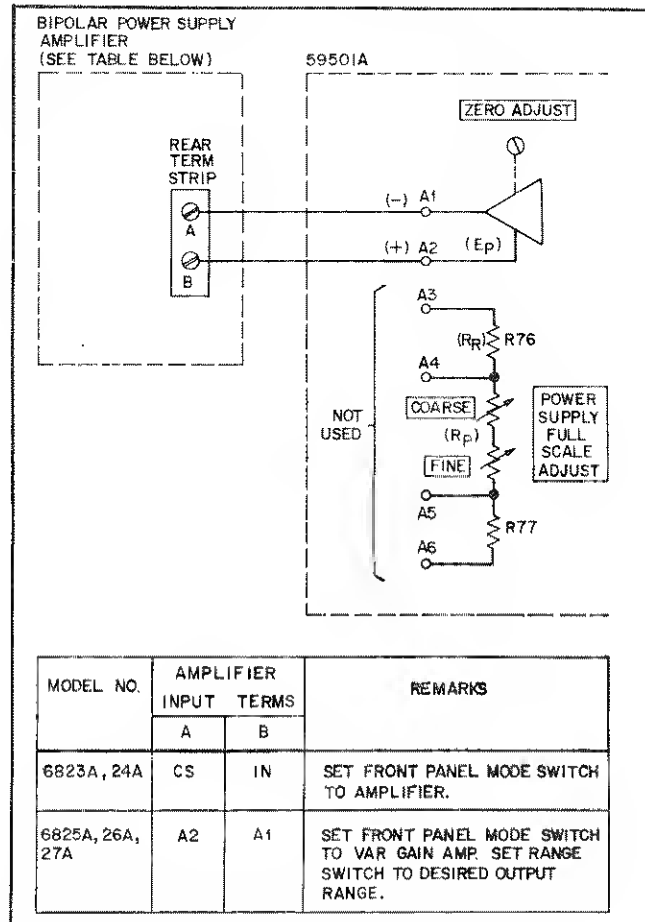

Figure 3-11. CV Programming Connections for Bipolar Power Supply Amplifiers 6823A-6827A
- Connect 59501A to BPS/A as shown in Figure 3-11.